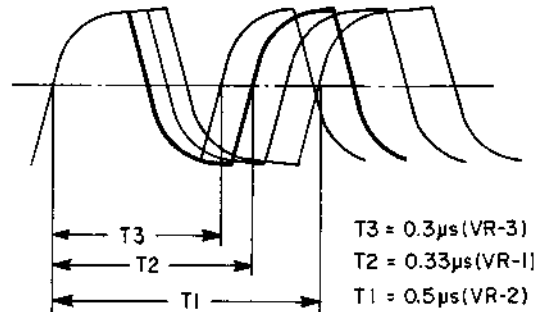

Fig. 2-27
- c) Adjust VR2 so that  $T_1$  in Fig. 2-27 is  $0.5 \mu\text{s}$  (2 MHz).
- d) Adjust VR1 so that  $T_2$  in Fig. 2-27 is  $0.33 \mu\text{s}$  (3 MHz).